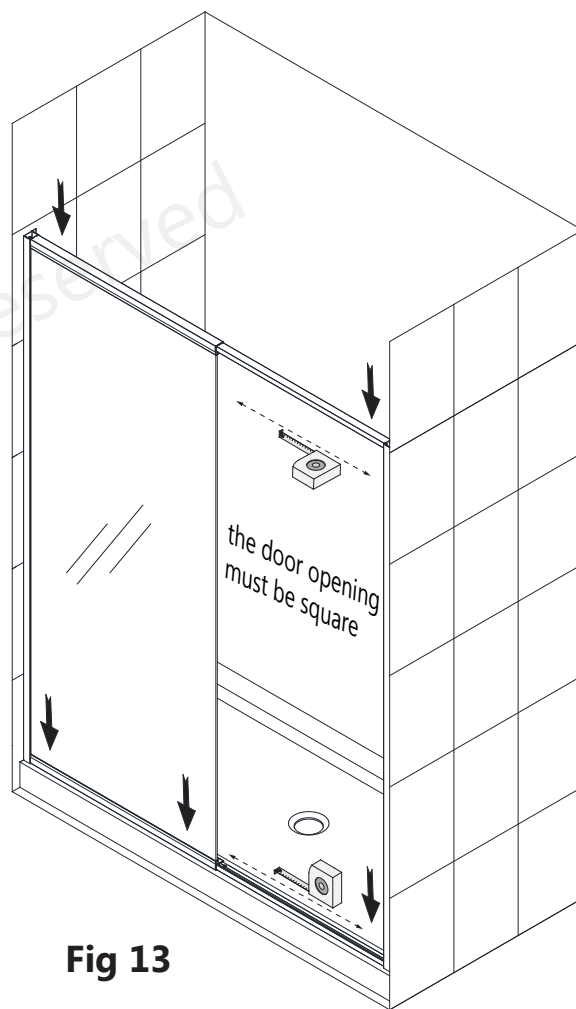

Fig 13
13. Check and adjust the door opening for square and make certain that the entire assembly is tight to the threshold. **(Fig 13)**